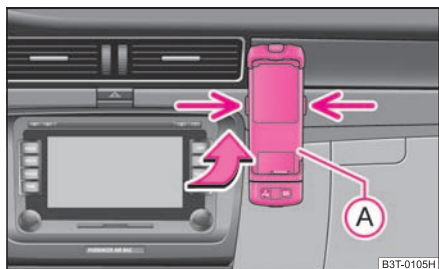

Fig. 139 Universal preparation for the mobile phone
- First of all push the adapter **A** in the direction of arrow ⇒ **fig. 139** up to the stop into the mount. Press the adapter slightly downwards, until it locks securely into position.
- Press simultaneously the side locks of the mount and remove the mobile phone and adapter ⇒ **fig. 139**.